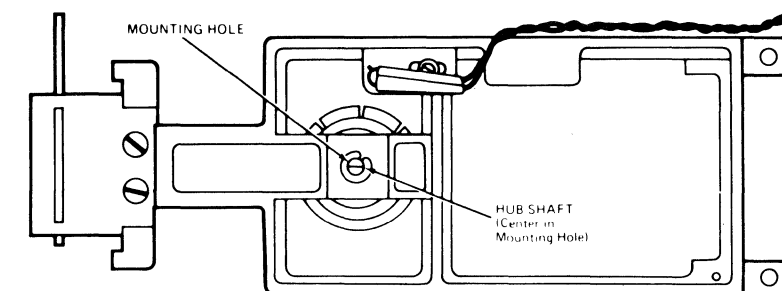

FIGURE 3. HUB FRAME ADJUSTMENT
- Position the hub frame until the hub shaft is centered in its mounting hole in the hub frame. Reference figure 3. Now tighten the mounting screws for the hub frame pivot springs.
- When installing a new assembly, insure the detector mounting block is flush against the side of the hub frame. Reference figure 3.